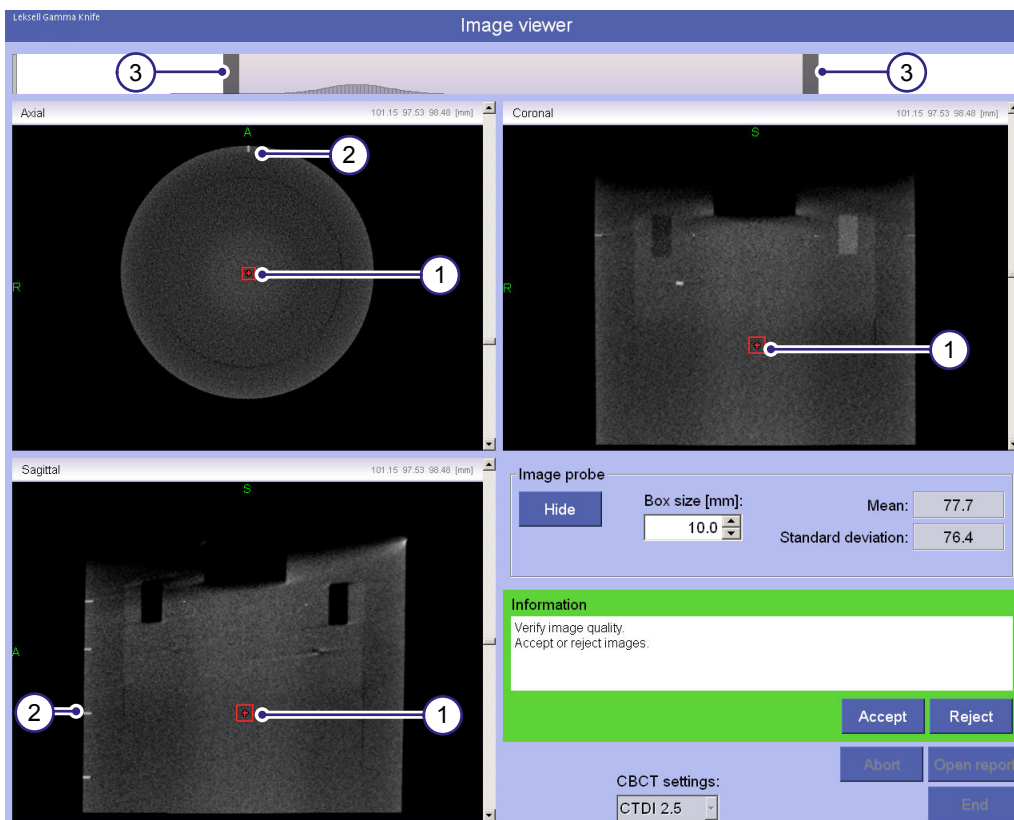

Figure 6.11 Image stack with homogenous section
- 1 Use the scroll bars to move the image probe (1) and find the image stack that shows the homogenous section. Move to the center of the image stack section where the marker (2) is shown. See Figure 6.11.